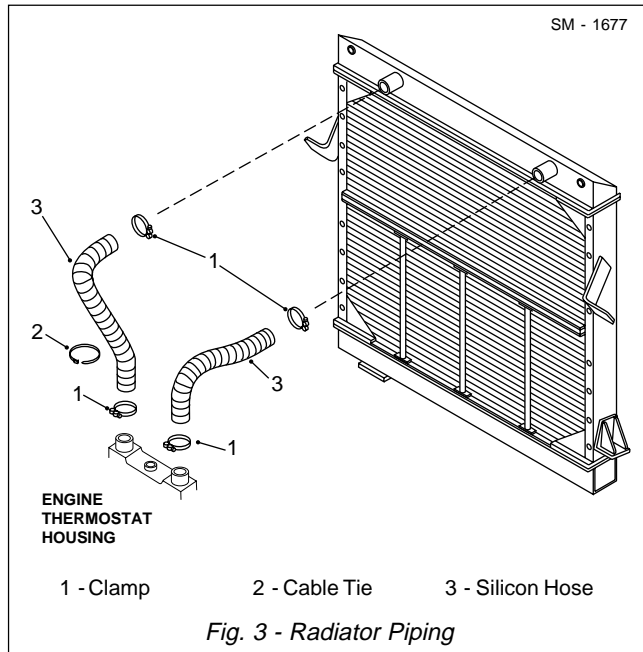

Fig. 3 - Radiator Piping
7. Remove locknuts (16), washers (2) and bolts (3 & 5) securing screens (19 & 20) to ring (18). Remove screens (19 & 20) from the vehicle.
8. Slacken clamps (1, Fig. 3) and slide silicon hoses (3, Fig. 3) away from the radiator top tank connections. Cap open hose ends to prevent entry of dirt.
6. Remove blanking caps and slide silicon hoses (3, Fig. 3) over radiator top tank connections and
secure with clamps (1, Fig. 3).